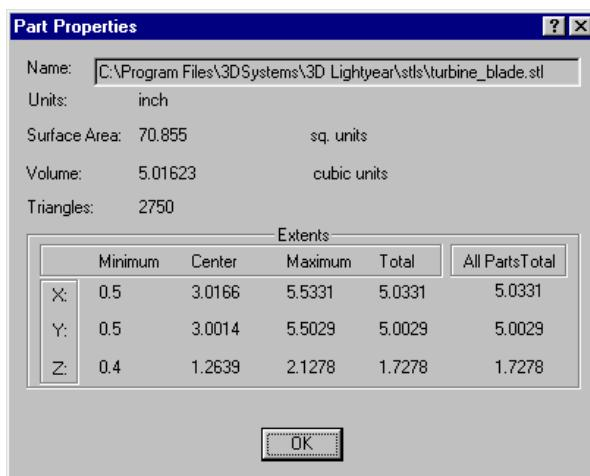

Figure 123. Part Properties Display Box
1. With at least one part selected, click the "Part Properties" ...  icon open the "Part Properties" display as shown in Figure 123.